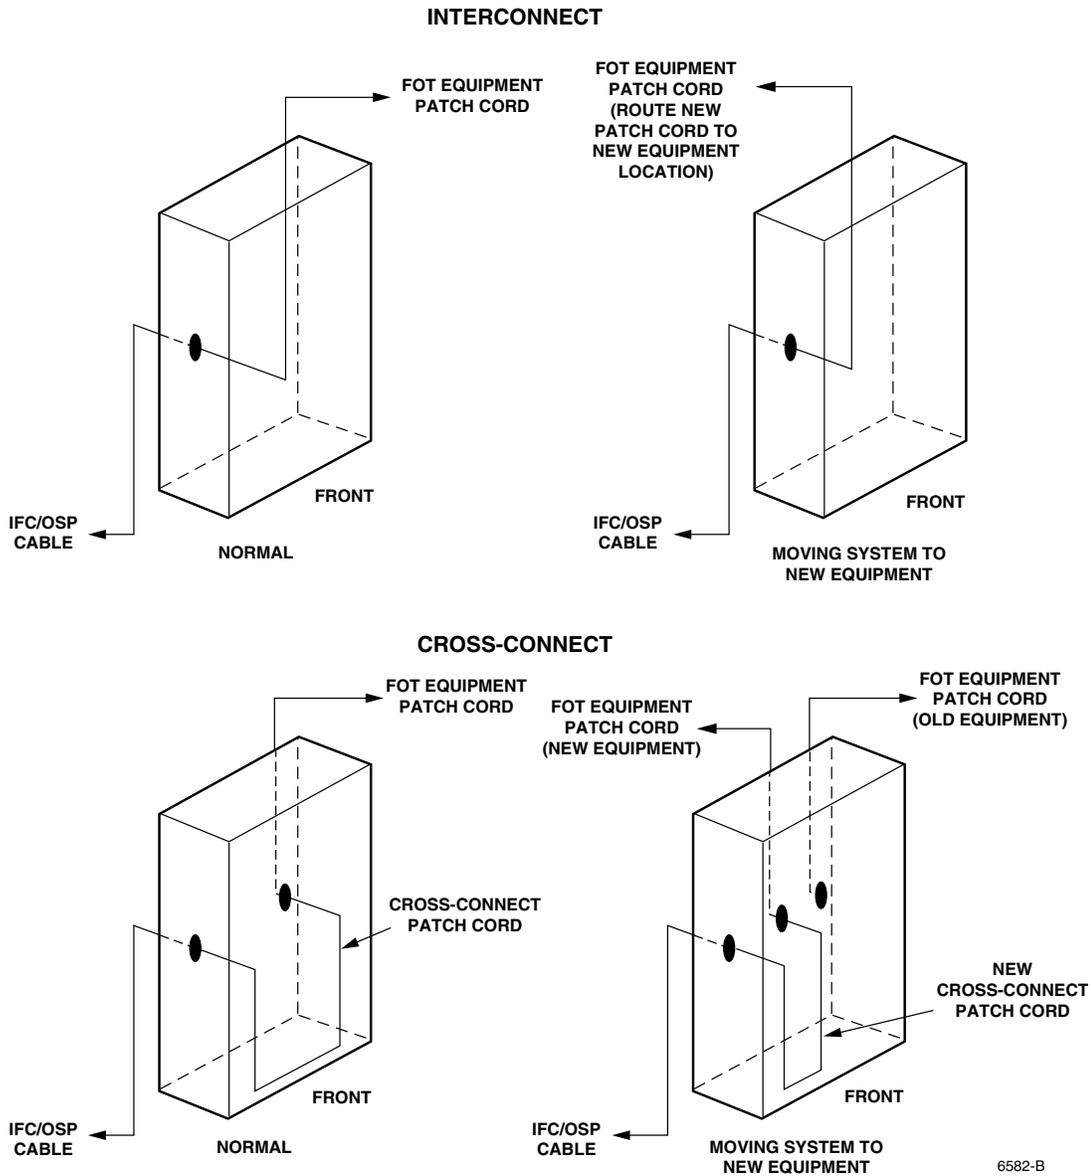

Figure 28. Moving Optical Fiber to New Equipment
This procedure is used to disconnect an IFC network cable termination and reconnect it to new equipment. Separate procedures are provided for interconnect and cross-connect applications. Refer to Figure 28 for a schematic diagram of the procedure.
1. Locate the adapter for the network cable that is to be connected to the new equipment (see Figure 28).
1. Locate the adapter for the present FOT equipment (see Figure 28).